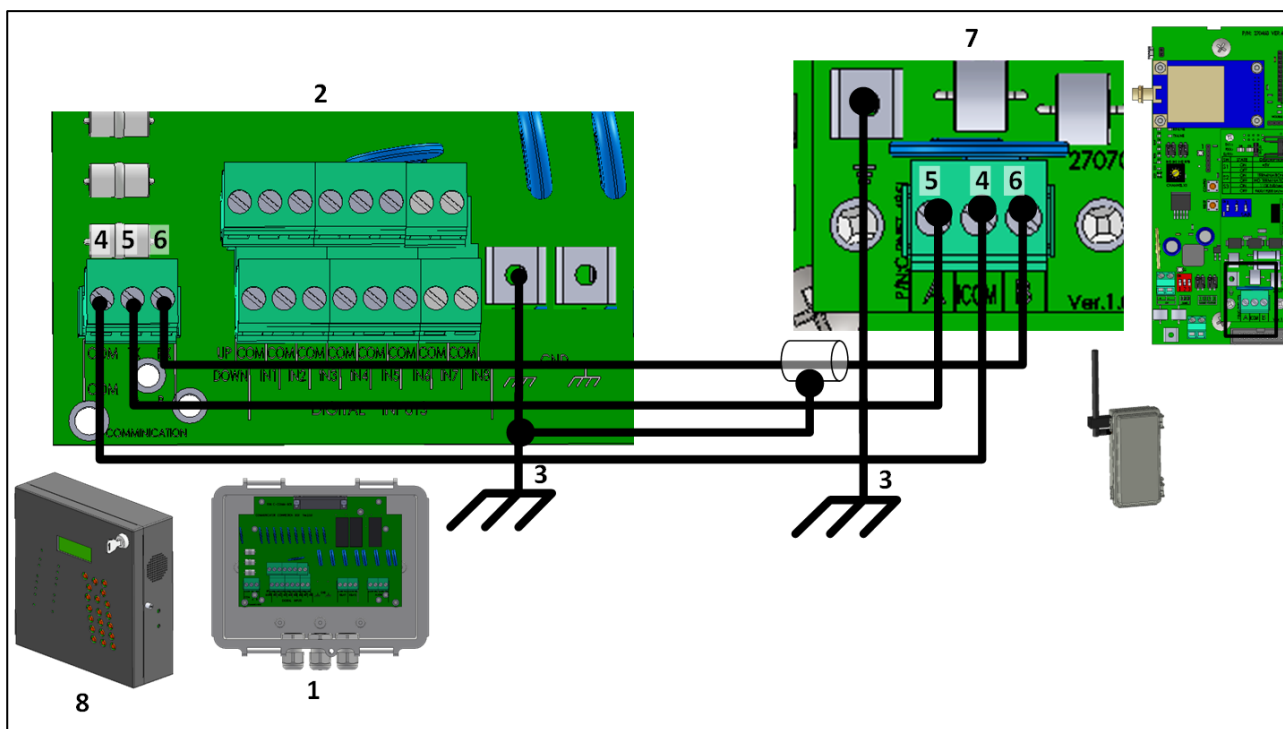

Figure 26: Wiring a Communicator External Box to a RLINK ONE-485
- Figure 26: Wiring a Communicator External Box to a RLINK ONE-485
Figure 26 key